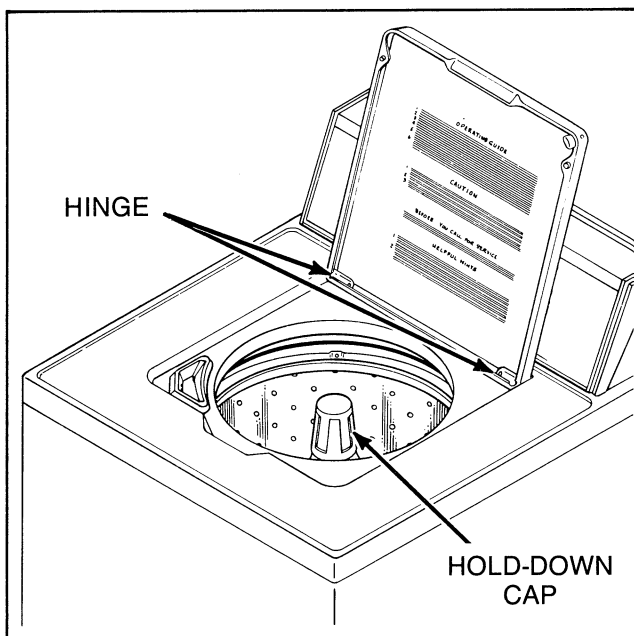

Figure 10
10. LOADING DOOR (Refer to Figure 10)
- Remove agitator hold-down cap and lift agitator out of washtub, *Figure 10*.